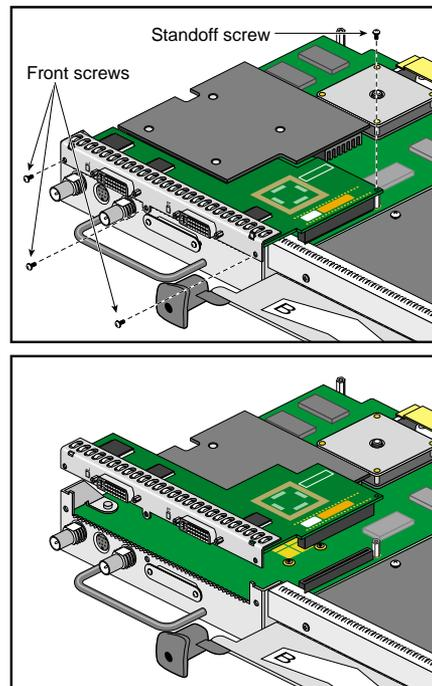

Figure 1-25 Removing the Display Option Board
3. Remove the Display Option Board as follows (see Figure 1-25):